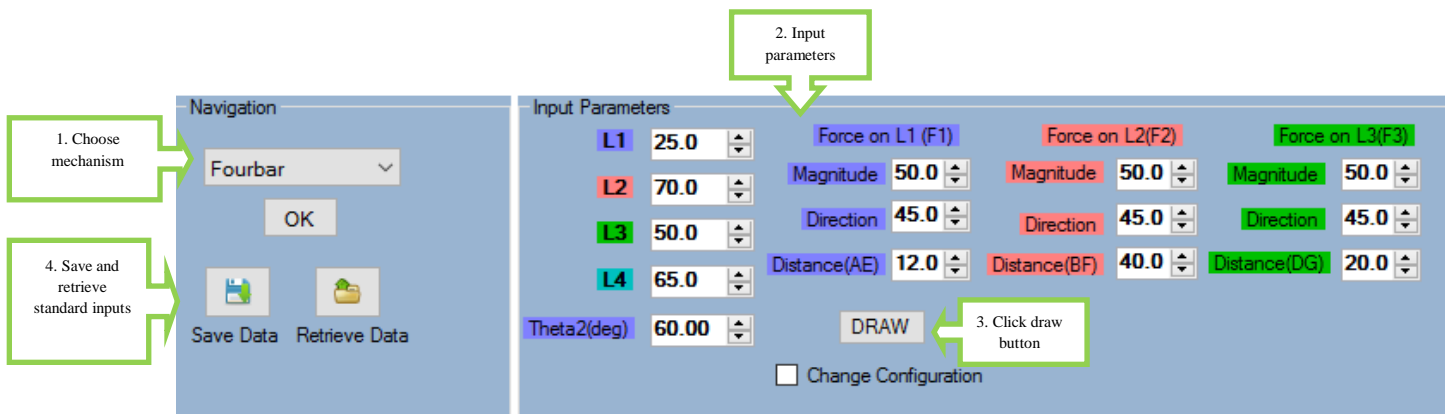

Figure 13: Guidelines for SFA Module Control
- Select the desired mechanism from dropdown menu in **Navigation** panel, and input parameters can be changed in **Input Parameter** panel (refer Figure 13).
- For saving and retrieving inputs click on the corresponding buttons in **Navigation** panel (refer Figure 13).